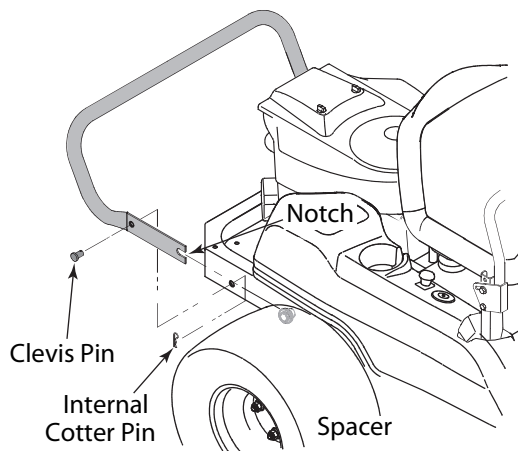

Figure 3-4
2. While supporting the rear bumper, cut the cable tie fastening the bumper to the engine lift bracket, and remove the clevis pins from each side. See Figure 3-4.
3. Remove the bumper and reposition to align the notch at each end of the bumper with the spacer on each side of the frame. Slide the bumper notches onto the spacers. Refer to Figure 3-4.